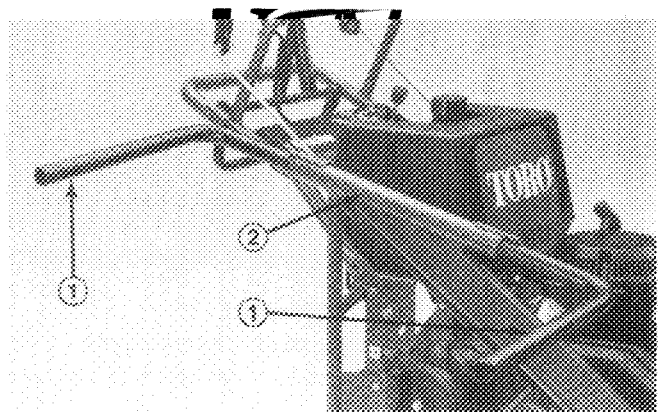

Figure 6
7. Insert a bagger frame tube into each end of bagger support and lock in slots (Fig. 6).